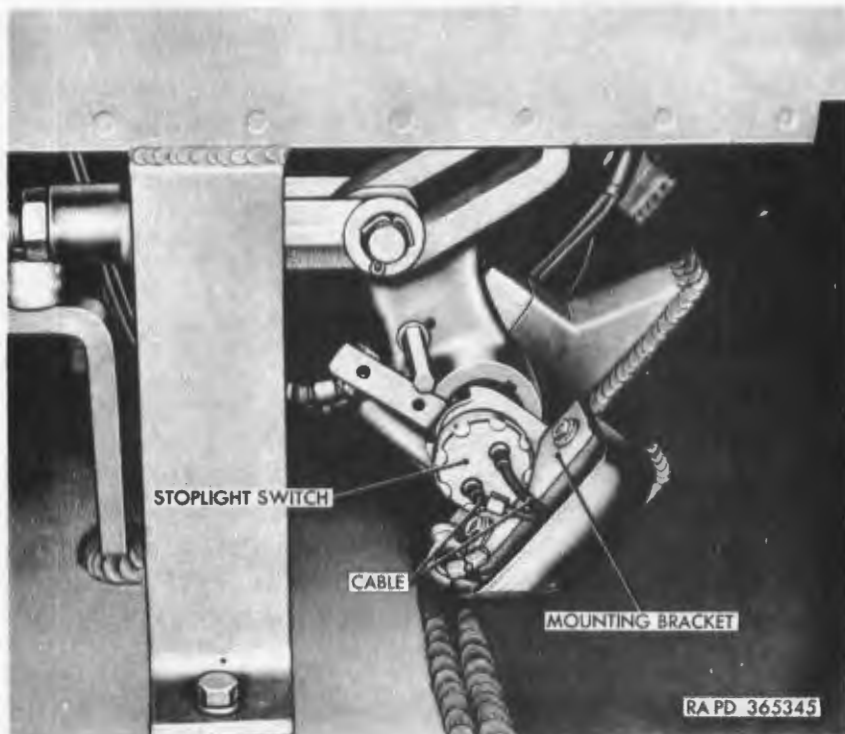

Figure 157. Stoplight switch installed.
k. Stoplight Switch. The stoplight switch (fig. 157) is mounted on the hull floor adjacent to the brake pedal cross shaft lever. This switch is actuated whenever the brake pedal is depressed and is energized when the master relay switch is on, and the main light switch (A-1, fig. 15) on the instrument panel is turned to any of the following positions: SER DRIVE, STOP LIGHT, BO MARKER, or BO DRIVE.
a. Removal. Check that master relay switch (E, fig. 15) is in the OFF position. Disconnect two switch cable connectors. Remove two hex-head bolts with integral lockwashers and two flat washers securing stoplight switch (fig. 157) to mounting bracket on lower front hull plate. Remove stoplight switch with cables.
b. Installation. Position stoplight switch (fig. 157) on mounting bracket and secure with two No. 10 x $\frac{1}{2}$ hex-head bolts with integral lockwashers and two $\frac{7}{8}$ 2-inch flat washers. Connect two